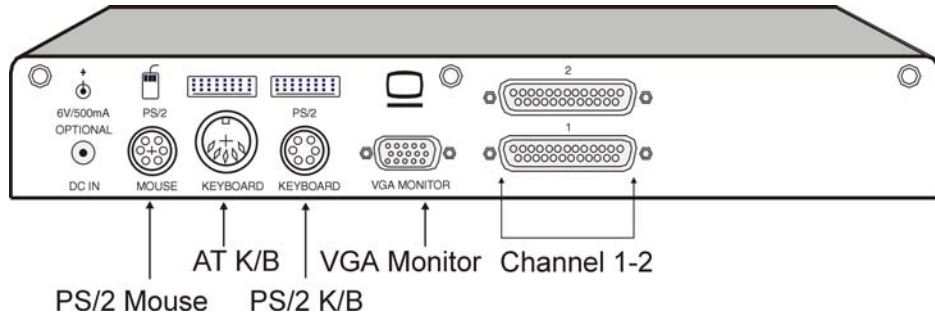

Figure 1. Back panel - CS2
1. Plug the monitor, keyboard, and PS/2 mouse into the ports marked VGA monitor, PS/2 or AT keyboard, and PS/2 mouse on the CompuSwitch back panel (figure 1, 2, 3, 4).